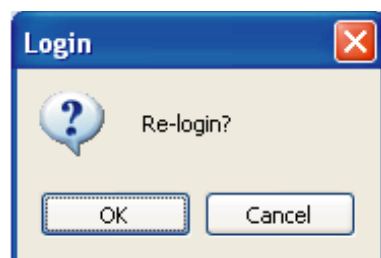

Fig.4-16
②Click "Re-login", window as Fig. 4-16 will display that interface ask user whether re-login the system, if yes, please click "OK". Click "Re-login", system will close the main interface and enter to the login interface again.